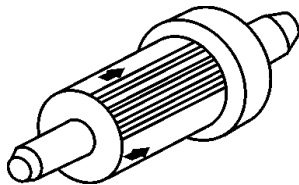

Figure 33. In-Line Fuel Filter
2. Replace the engine in-line fuel filter (Figure 33) every 200 hours. When replacing the filter pay close attention to the orientation of the arrows.